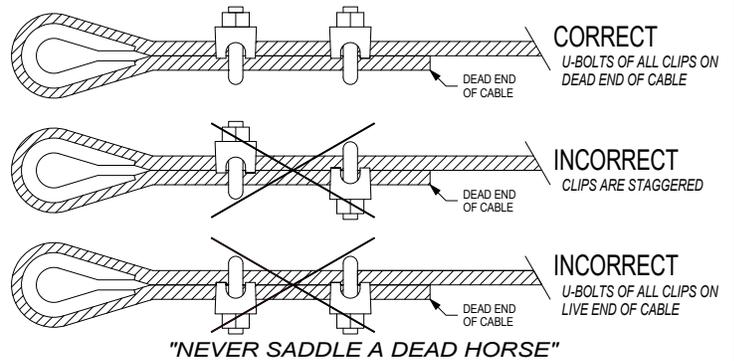

Figure 23: Rendering of Proper Cable Clamp Assembly
3. **NOTE: You will be required to drill through the tee fitting at the end hoist cable in 2 locations. See Figure 23 for attaching the eyebolt at these locations. Hole must be drilled vertical or cage will sag on the end.**